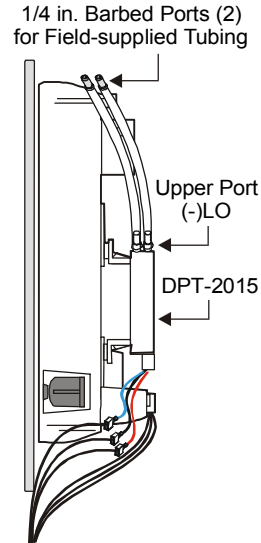

Figure 9: M9104-AGS-2N with Wiring Harness
2. Connect the tubing from the flow pickup device to the corresponding barbed high and low pressure ports on the DPT-2015. (See Figure 9.)